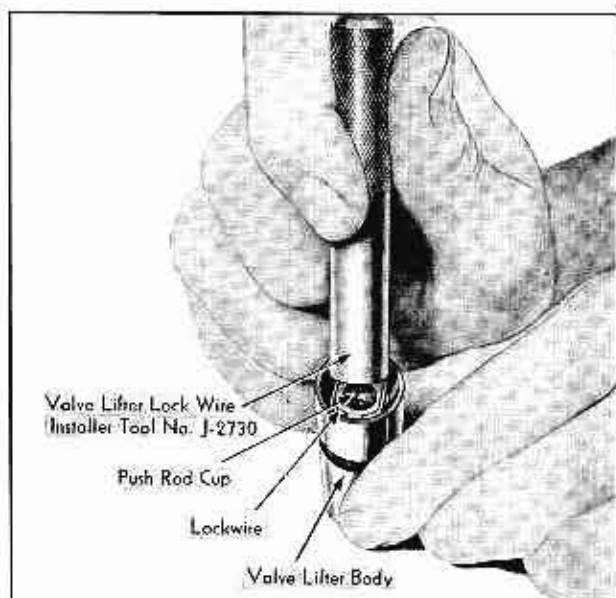

Fig. 10-15 Installing Valve Lifter Lock Wire
7. Press lock wire into groove with Valve Lifter Lock Wire Installer, Tool No. J-2730, Fig. 10-15.